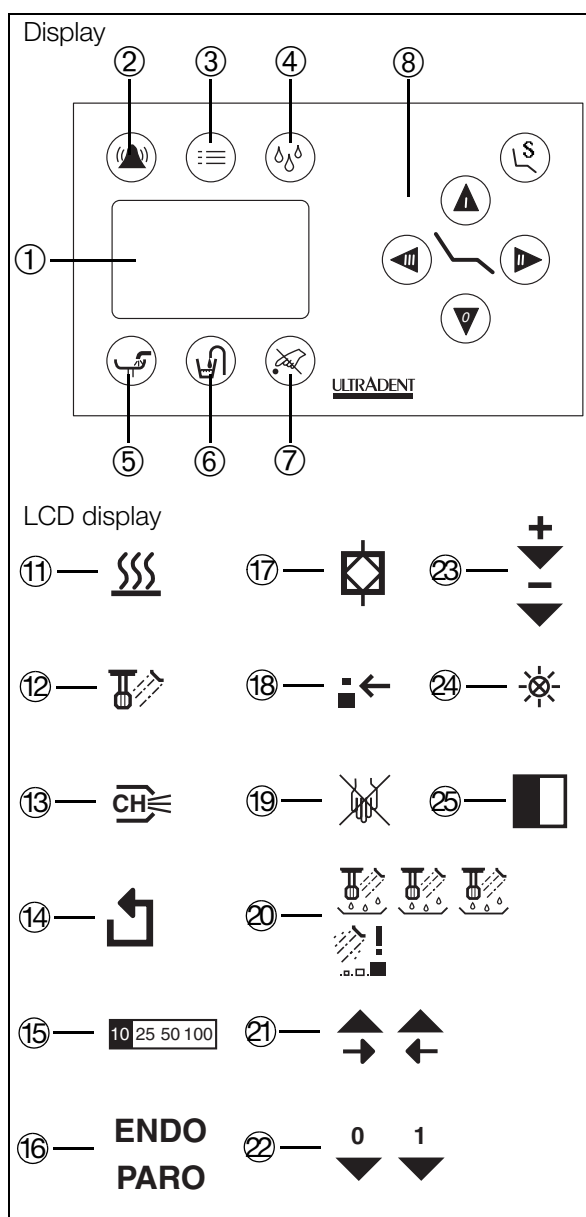

Fig. 9
- Press the key ⑦ (Fig. 9)
The symbol ⑲ (Fig. 9) appears on the display.
The display contrast can be set using the display. Press the menu key ③ (Fig. 9) when all the instruments are placed in their holders. The sub-menu then appears.
Tap the key marked with a right arrow ⑪ (Fig. 9) until the ⑮ (Fig. 9) symbol appears.
You can then change the contrast by tapping the keys marked with the ⑲ (Fig. 9) symbols. Once the required contrast has been set, you return to the main menu by tapping the ③ (Fig. 9) key.